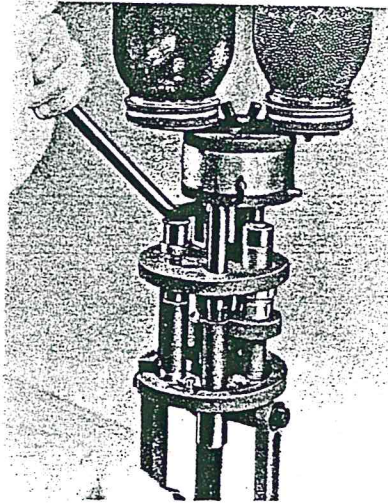

Fig. 8
7. Go through whole procedure as before. Set shell 6, rotate one stop, set Primer, set Wads, Grasp Operating Handle, Extend forefinger. STROKE. Extend thumb on retract. This time, you finish-crimped shell 1. In order to complete the Crimping Operation WHILE INDEX BASE IS STILL IN POSITIVE-STOPPED RAISED POSITION, grasp Crimper Handle with left hand, and depress to line marked on crimping plug, showing above top of turret sleeve. (Figure 8). This takes only even, easy pressure downward or until you feel firm resistance as you pull on the lever, *now* maintain this pressure with your left hand as you push the operating handle rearward, throw shot and powder and lower index base. Maintaining pressure (with crimping lever) as index base is lowered aids the withdrawal of completed shell from sizing die. Using this procedure you will be pushing the completed shell from the top while the shell holder pulls from the bottom. This combination of push and pull virtually eliminates the possibility of pulling the shell apart.